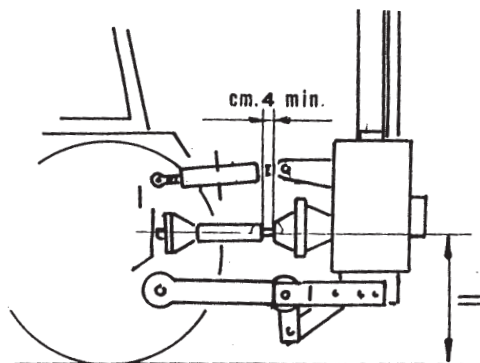

Fig. 15
To attach the machine to the tractor (FIG.15), bring the tractor lower lines (1) near the flail-hedger mower, to the points corresponding to the pins.
Using the hydraulic lift of the tractor, place the machine at the closest point between the corresponding power takeoffs and check the minimum length of the PTO shaft (FIG. 15).
After following the steps described in 4.3 FIG.15, the pumps 1 can be fitted to the tractor as follows: